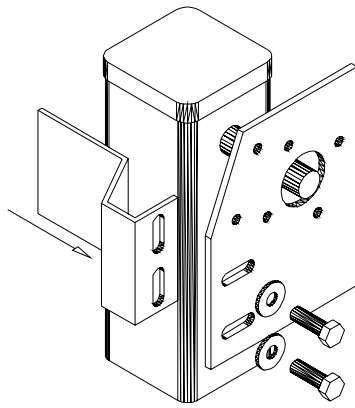

Figure 3.
7. Loosely bolt the face plate to the side plate, using the 5/8” bolts supplied. Refer to figure 3 below.